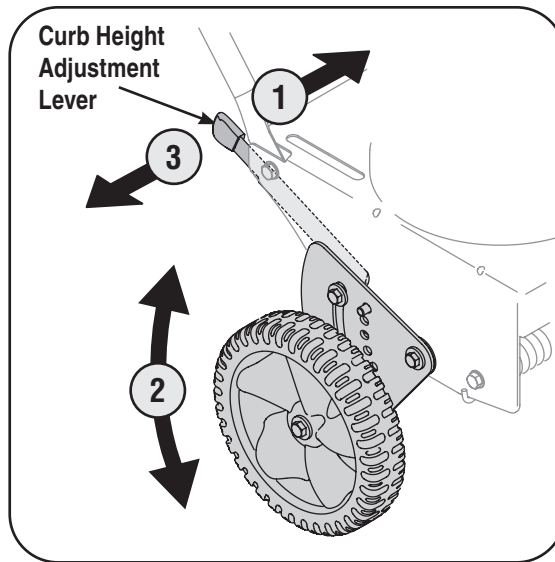

Figure 5-2
1. Lower the right, rear wheel by moving the curb height adjustment lever slightly to the left. See Fig. 5-2.
2. Pivot the right, rear wheel into an applicable position in relation to the height of the curb to be edged along. See Fig. 5-2.
3. Release the curb height adjustment lever to lock the wheel in position. See Fig. 5-2.